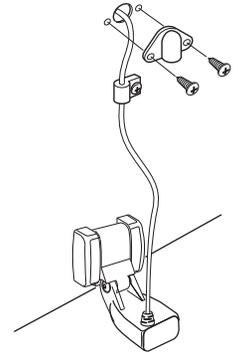

Figure 25
- 2b. If you will be routing the cable through a hole in the transom, drill a  $\frac{5}{8}$ " diameter (16 mm) hole above the waterline (Figure 25). Route the cable through this hole, then fill the hole with marine-grade silicone sealant and proceed to the next step immediately.